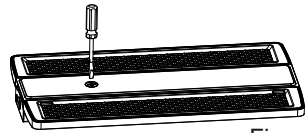

Figure 10
- Step1. Remove the 1/2 plug on the front of the lamp via a screwdriver. (Figure 10) ;